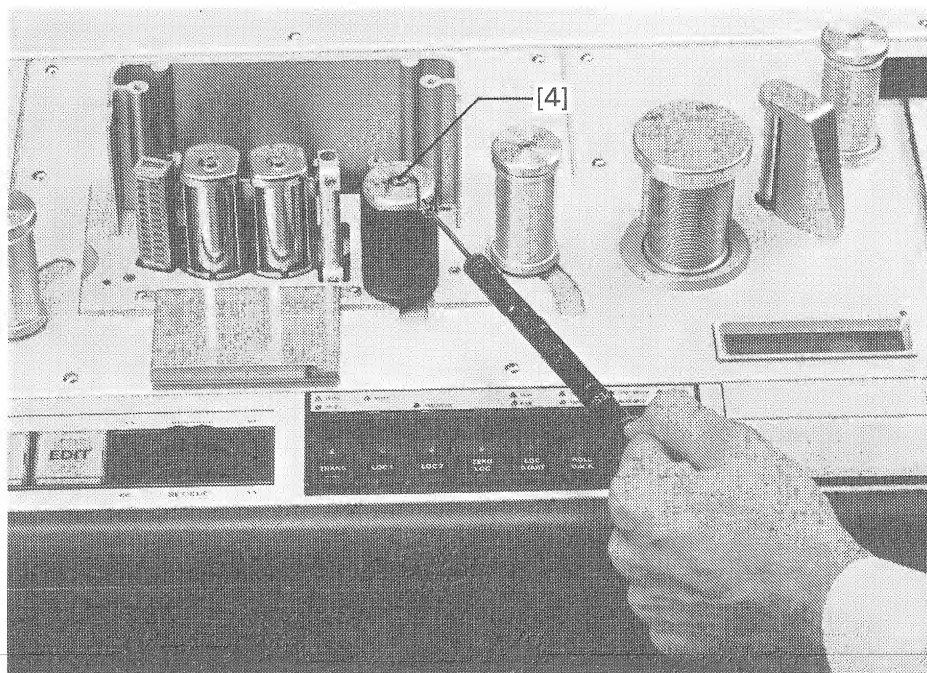

Fig. 3.1.6-3
- The adjusting nut [5] (prevailing torque type nut, opening across flats 7 mm) of the pinch roller assembly is accessible through an opening in the cast chassis. Adjust until the requested value is attained (see Fig. 3.1.6-2).